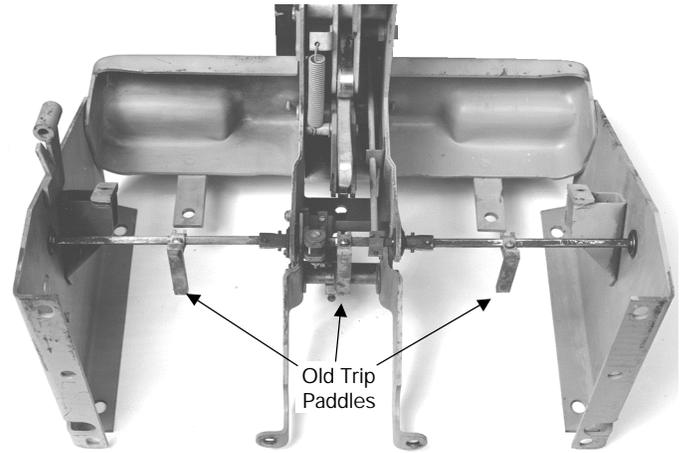

Figure 8. Front frame assembly, showing the old trip paddles.
Place the front frame on a suitable work surface as shown in Figure 8.
1. Remove and discard the three trip paddles on the trip actuator bar, as shown in Figure 8.